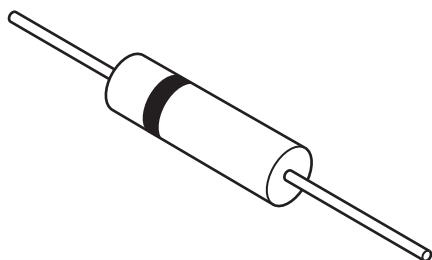

Fig. 15
- (ii) Fig. 15 shows component D1.